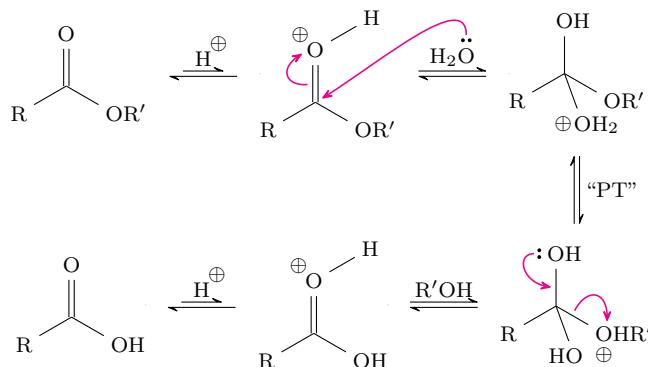

Figure 4.27: Ester hydrolysis mechanism (acid-catalyzed).
- Observe that analogously to Figure 4.27, we have only drawn *negatively charged* intermediates.
- Mostly the same as Figure 4.27.
- Once we protonate/activate the carbonyl, the rest of the mechanism is analogous to Figure 4.27.